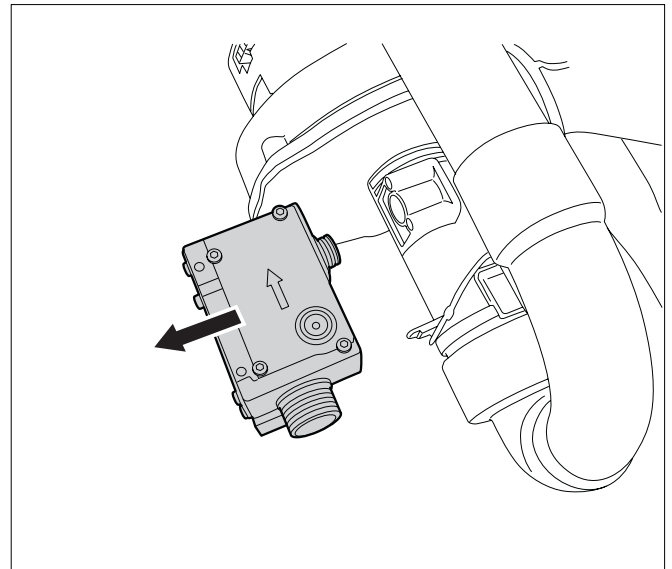

Fig. 86 Dismantling the gas control valve
- Remove the gas control valve (see fig. 86).